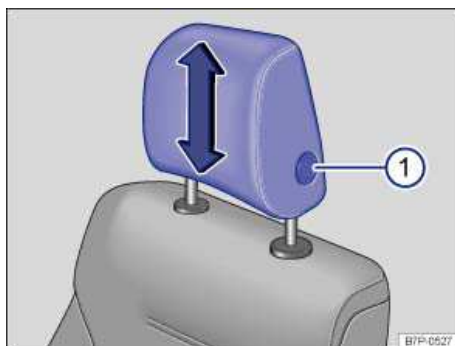
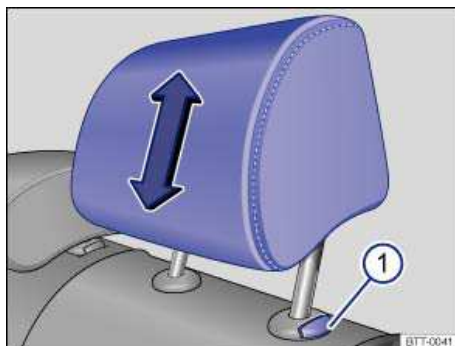

Fig. 45 Adjusting the front head restraints.
Fig. 46 Adjusting the rear head restraints.
- Push the head restraint up in the direction of the arrow or down when the button $\Rightarrow$ fig. 45 \(1\) or $\Rightarrow$ fig. 46 \(1\) is pressed $\Rightarrow$ .